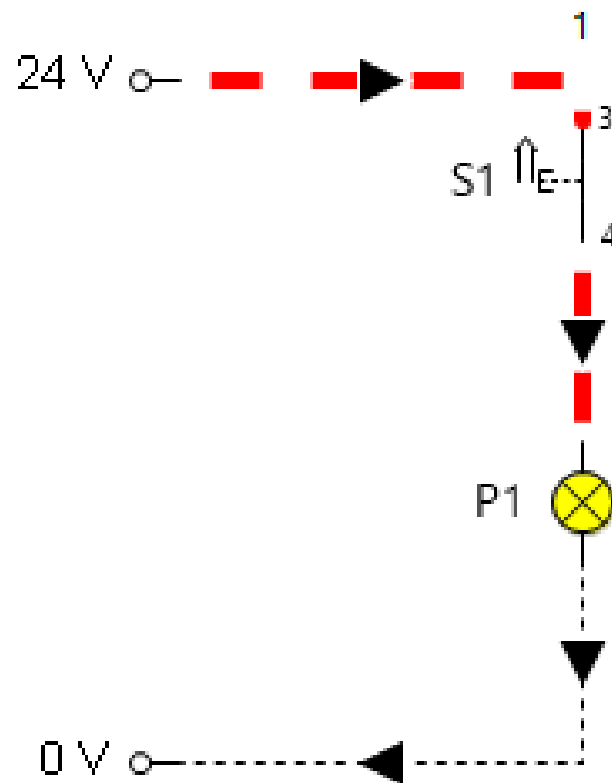

Figure 2.16: A basic relay circuit to control a light.
- **Normally Open (NO):** This contact is an open circuit when the coil is off. It closes when the coil is energized.
- **Normally Closed (NC):** This contact is a closed circuit when the coil is off. It opens when the coil is energized.
**3. Task Example: Using a Relay to Turn a Light On/Off** In the circuit in Figure 2.16, pressing pushbutton **S1** energizes the relay coil **K1**. This closes the NO contact **K1**, which completes the circuit for the lamp **P1**, turning it on. When S1 is
2. **Study the Circuit Diagram:** Analyze the circuit in Figure 2.16 from the information sheet. Identify the two separate "rungs" or paths: one for the control circuit (coil) and one for the power circuit (lamp).